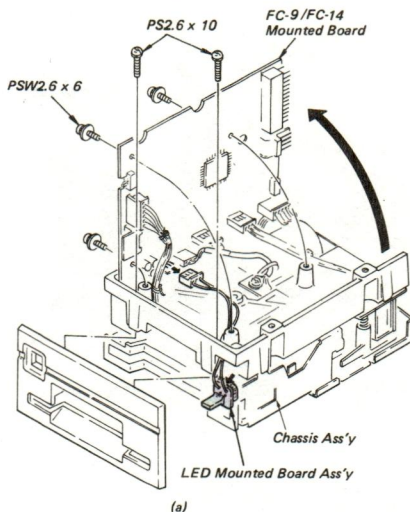

Fig. 4-4 LED Mounted Board Ass'y Replacement
- Remove both the FC-9/FC-14 Mounted Board and shield plate. Disconnect CN 102 connector. (Refer to Fig. 4-4 (a))
- Peel off remover from the cushion and set the LED Mounted Board as shown in Fig. 4-4 (b).